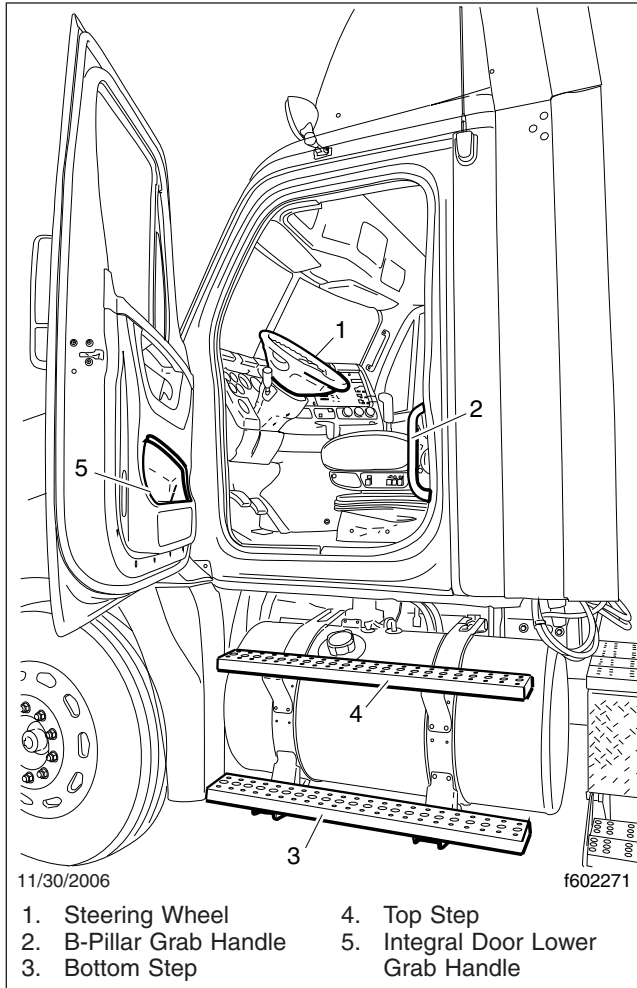

Fig. 2.3, Driver-Side Steps and Grab Handle
- Using both hands, grasp the grab handle that is on the B-pillar, or use your left hand on the integral door lower grab handle. See Fig. 2.3. Reach up as far as is comfortable.